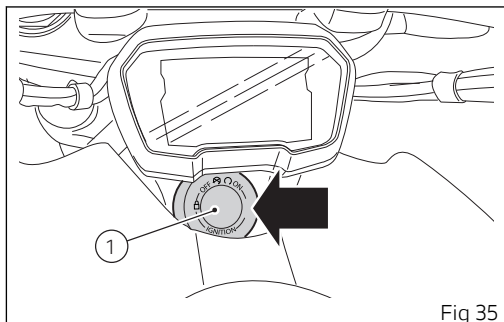
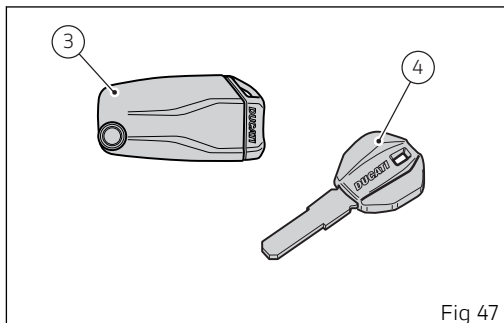

Fig 35
Fig 47
Key-On can be performed by pressing button (7) on the Hands free lock and with the presence of the passive key (4, Fig 47).
Key-Off can be performed by pressing button (7) on the Hands free lock (1, Fig 35), also without the key (4, Fig 47).